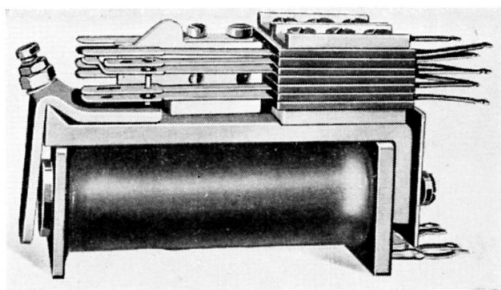

Fig. 1. Typical K3000 relay for low-voltage applications
2. A typical relay for low-voltage applications is illustrated in fig. 1. It is an unsealed unit, incorporating a single-wound coil, a knife-edge pivoted armature, and a spring-set in two banks fitted with twin silver contacts. The coil and spring-set insulation are suitable for 100-volt working, and the contact rating and contact arrangement are indicated in Table 2.